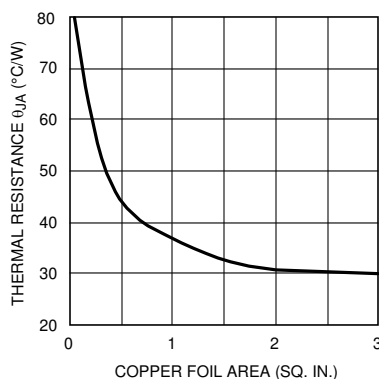

图 6-4. Thermal Resistance (Typical) for 7-L DPAK Package Mounted on 1 oz. (0.036 mm) PC Board Foil
5. Choose a copper area that will ensure the specified $T_{J(MAX)}$ for the calculated θ_{JA} . θ_{JA} as a function of copper area in square inches is shown in Figure 6-4.
4. Finally, using this value for θ_{JA} choose the minimum value of copper area from Figure 6-4.
Examining 图 6-4, we see that we cannot attain this low of a thermal resistance for one layer of 1 oz copper. It will be necessary to derate the part by decreasing either the ambient temperature or the power dissipation. Other solutions are to use two layers of 1 oz foil, or use 2 oz copper (see 表 6-1), or to provide forced air flow. One should allow about an extra 15% heat sinking capability for safety margin.